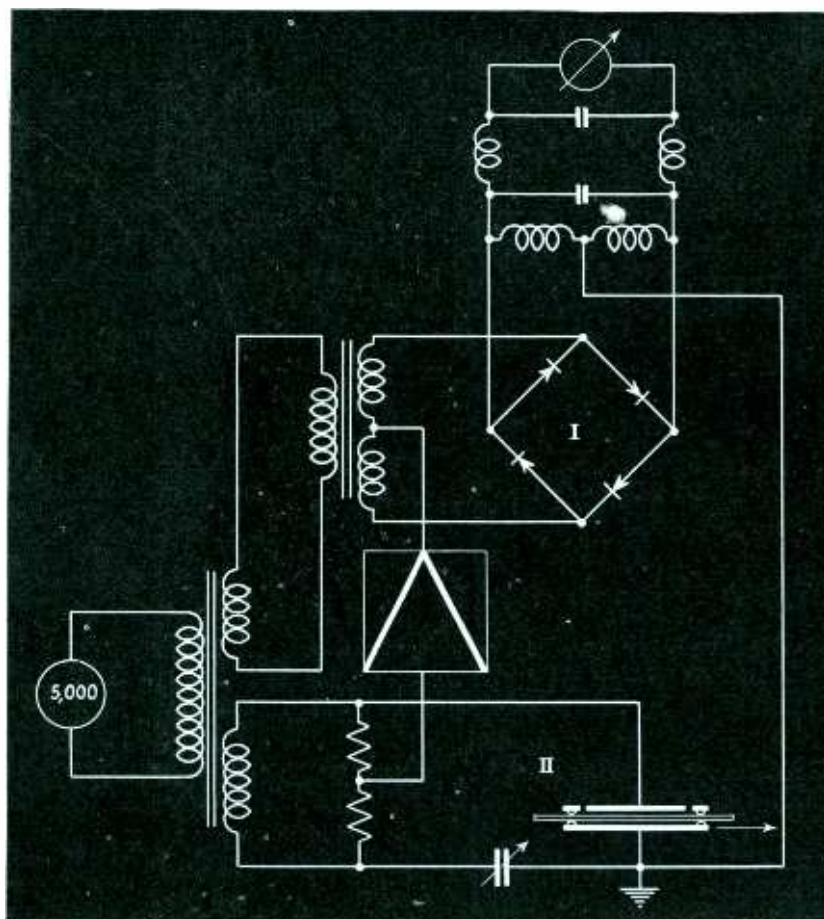

Fig. 5. Application of modulator bridge to measurement of humidity
Industrial applications have been made with a circuit like that in Fig. 5 for such purposes as measuring the humidity of paper in paper-mills. A generator of 5000 cycles feeds a modulator bridge (I) as well as a second bridge (II), one capacity branch of